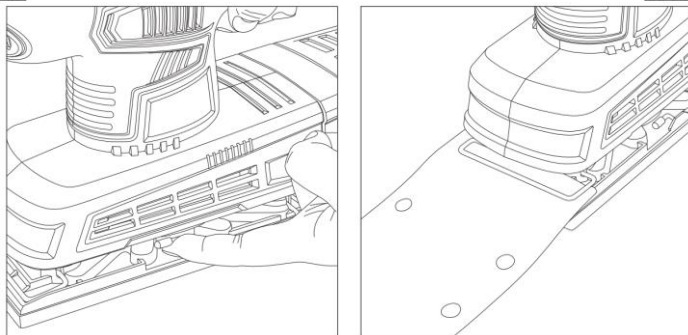

Figure 4
3. To remove the sanding sheet, release the clamp and then remove it. (Fig.4)